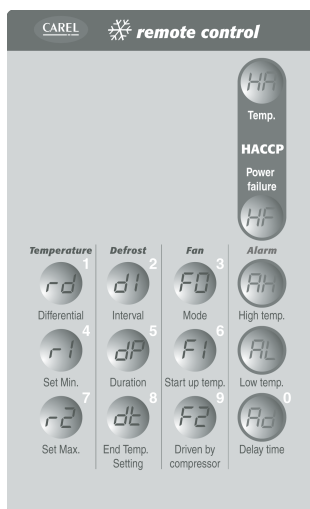

Fig. 5.2.4
- Buttons for direct display/modification of the most commonly used parameters (Figure 5.2.4).